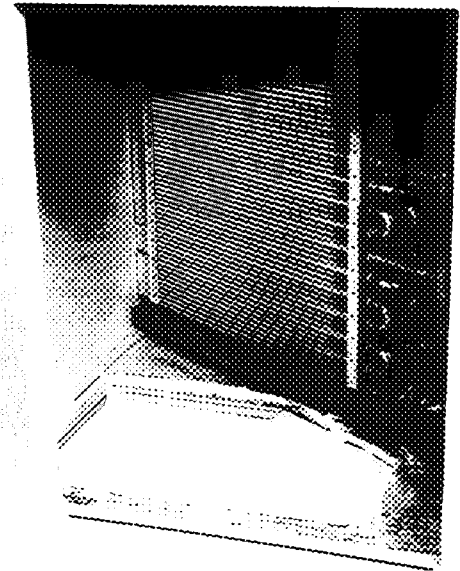

Fig. 18 — Vertical Duct Cover Removed
4. Using a straight edge and shop knife, cut and remove the insulation around the perimeter of the cover. Remove and save 5 screws securing the cover to the basepan and slide out the cover. Discard the cover (Fig. 18).